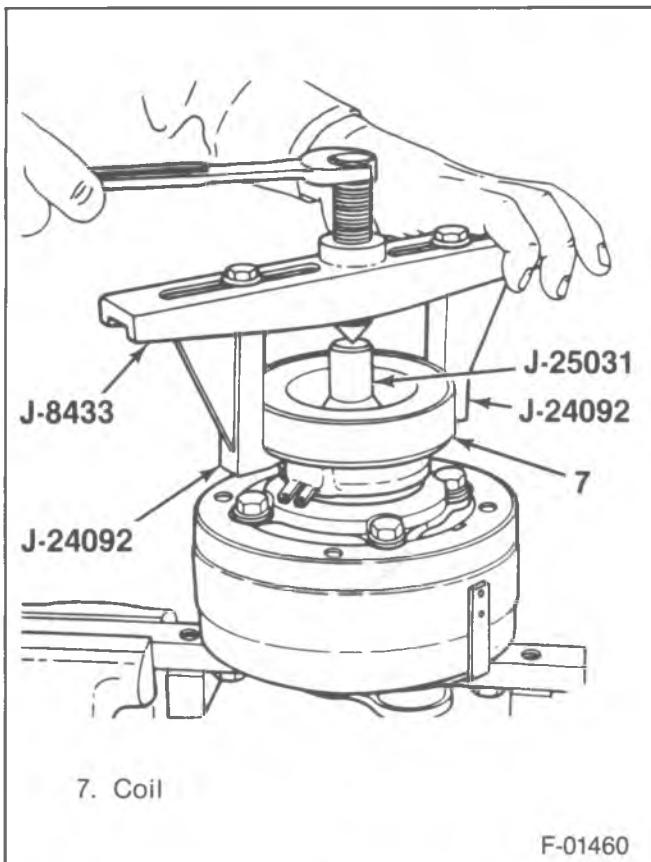

Figure 16—Removing the Multi-Rib Clutch Coil
1. Clutch drive hub (3).
2. Rotor (5) and bearing (6) assembly.
3. Clutch coil (7) from the front head (15) (figure 16).
- Install J-25031 guide to the shaft (34).